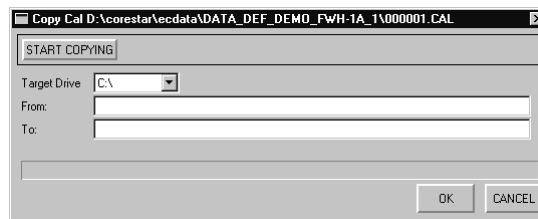

Figure 3-54. Cal Copy Dialog
- **TLIST > Cal > Copy ...** causes the **Copy Cal** dialog in Figure 3-54 to appear. As the name implies, this dialog provides a method of copying the currently opened cal group, in its entirety including the complete directory structure, to a drive selected by the user in the **Target Drive** drop-down box. Once the **Target Drive** is selected, **click** the **START COPYING** button to begin the process. Before clicking the **START COPYING** button, ensure that the desired cal group is currently opened, the **Target Drive** is properly selected, and the **Target Drive** contains the necessary media, i.e., ZIP disk, SuperDisk, MO, etc. The currently opened cal group for copying can best be verified by reviewing the information shown in the title bar.
In Figure 3-54, cal group *D:\CORESTAR\ECDATA\DATA_DEF_DEMO_FWH-1A\000001.CAL* will be copied to C:\ drive.